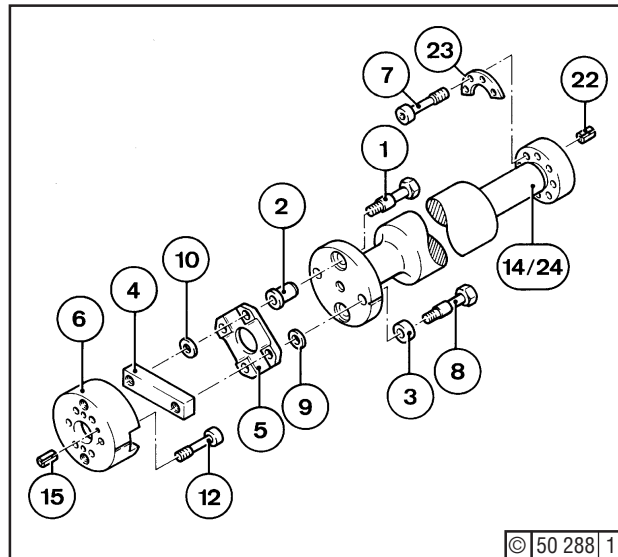
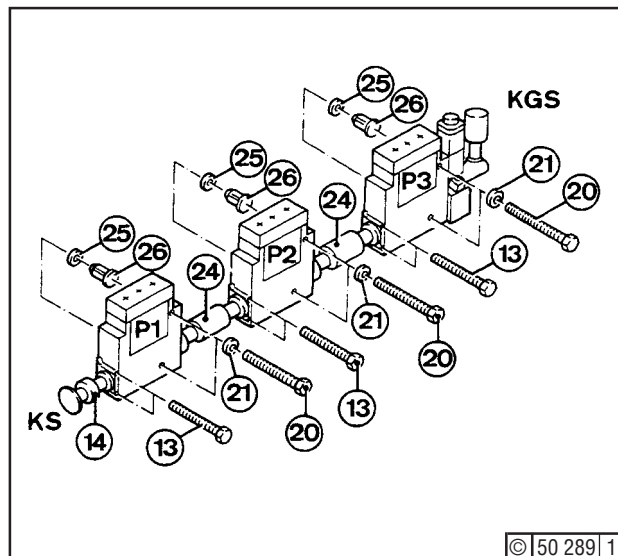
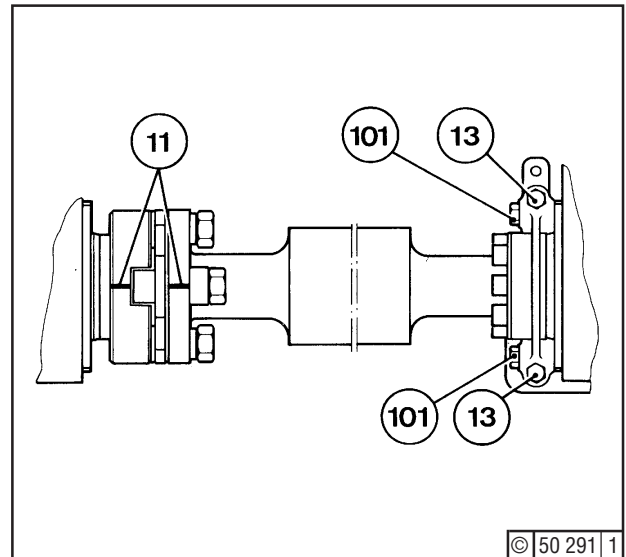

Fig. 2
Fig. 3
Fig. 5
Removing pumps P1, P2, or P3 - fig. 3 -
- Unscrew the 4 fitted bolts (1) and (8) - Fig. 2.
- Retain injection pump - Fig. 3 - with hoist. Unscrew hex. bolts (13) and (20) and take out washers (21). Lift off pump from engine and place down carefully. When lifting off pump, pay attention to spacers (25) and parallel pin - between crankcase cover and injection pump. The spacers may be adhered or fastened with countersunk nails.
- Make sure that only genuine DEUTZ gaskets are fitted under crankcase covers - behind injection pumps - and spacers (25) - Fig. 3 - otherwise alignment errors may result.
- Fit shaft (14) - Fig. 2 - by locating it with dowel pin (22) and screw together with washers (23) and cheese head bolts (7) until hand-tight. If the injection pump retainer had been taken off, it should be suspended loosely above the shaft. If not, loosen the four hex. bolts (101) - Fig. 5 - before refitting the pump.
- Insert bushes (2) - Fig. 2 - into shaft (14) and thread fitted bolts (8) provided with bushes (3) through shaft (14).
- Make sure that spacers (25) are fitted - Fig. 3. Place injection pump with shaft onto parallel pin in crankcase cover and observe marks (11) - Fig. 5 -. Secure hex. bolts (20) provided with washers (21) hand-tight so that the injection pump rests against the crankcase without any clearance.
-  If space is limited, it is also possible to screw shaft (14) together with the injection pump only when this is already loosely attached to the crankcase.
● Check shaft (14) for easy movement. For this purpose loosen cheese head bolts (17) - Fig. 1 - as described under heading "Before removing injection pumps". Make several crankshaft revolutions by hand and check for smooth and even running. Should one of these checks reveal any inadmissible discrepancy, the injection pump retainer and the pump have to be slackened by loosening the hex. bolts (13) and (101) - Fig. 5, as well as (20) - Fig. 3. ● Repeat refitment and checks as from "Preassembly of injection pump retainer". If another deficiency is determined after the refitment, components should be checked as described before. Refitting pump 2 (6/8/9-cyl. engine) - Fig. 3 - ● If the coupling flange (6) - Fig. 2 - was removed, remount same to pump 1 by means of cheese head bolts (12), located by dowel pin (15). ● Tighten cheese head bolts (12) as specified (Section 3.5, line 15). ● Then proceed further as described under "Refitting pump 1". Refitting pump 3 (9-cyl. engine) - Fig. 3 - ● Refitting should be done in a similar way as described under "Refitting pump 2". After refitting the injection pumps ● Turn shaft (14) - Fig. 1 - until scriber marks on drive gear (8) and shaft section (19) correspond. ● Lock down cheese head bolts (17) - observing scriber marks - as specified (Section 3.5, line 16). ● Put tappets into operation as per job card 07.01.01. ● Check commencement of delivery and fit lube oil pump for valve seat lubrication as per job card 07.06.01. Depending on engine design ● Refit electronic governor, fasten cable connections or refit hydraulic governor as per job card 05.04.01. ● Refit timing cover. ● Refit governing linkage as per job card 05.04.14. ● Refit injection lines as per job card 07.03.01. ● Refit all fuel and lube oil pipes. ● Bleed fuel lines as per job card 07.03.02. ● Fasten cover of injection pump drive.